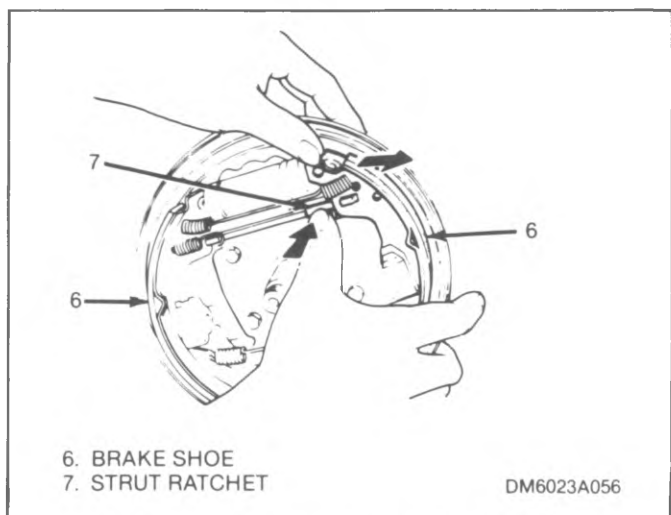

Figure 4-12. Retracting Brake Shoes
8. Retract the brake shoes (6) (see figure 4-12). To do this, press the strut ratchet (7) inward while simultaneously pushing forward on brake shoe.